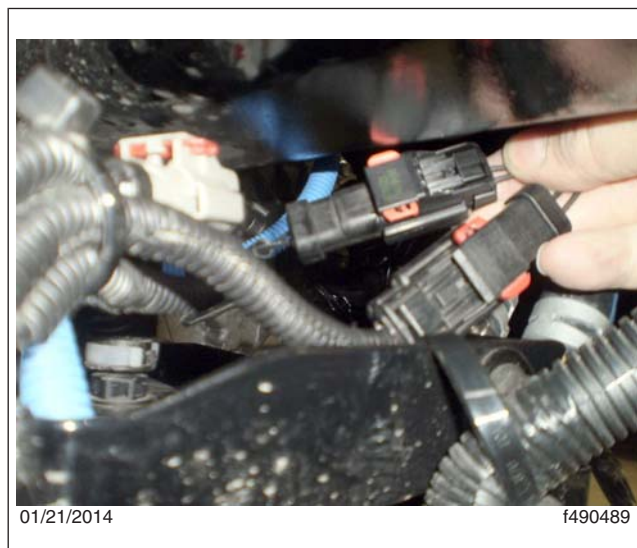

Fig. 5, Heater Connectors
12. Locate the DEF heater pigtail connector above the DEF module that matches the connector on the heater pigtail (there is only one). See Fig. 5.